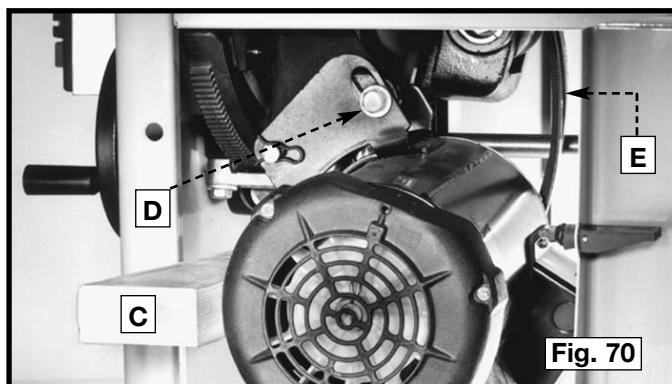

Fig. 70
2. Place a block of wood (C) Fig. 70 between the motor and the saw cabinet.
3. Loosen the bolt (D) Fig. 70 and continue to lower the saw arbor until all tension is removed from the belts (E). Tighten the bolt (D).
4. Raise the saw arbor slightly and remove the block of wood (C) Fig. 70.
8. When the new belts are installed, loosen the screw (D) Fig. 70, and carefully let the motor rest on the belts.
10. Tighten the screw (D) Fig. 70.